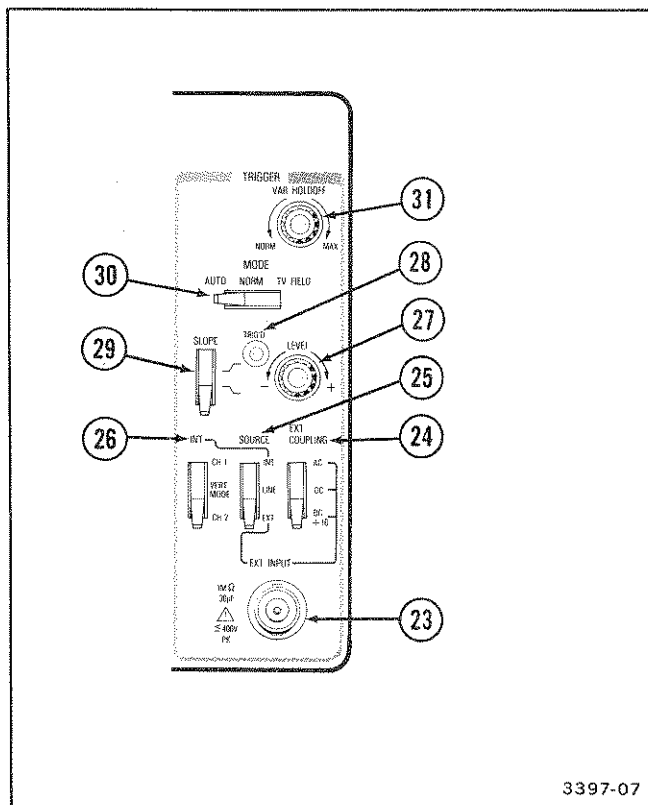

Figure 6. Trigger controls, connector, and indicator.
Refer to Figure 6 for locations of items 23 through 30.